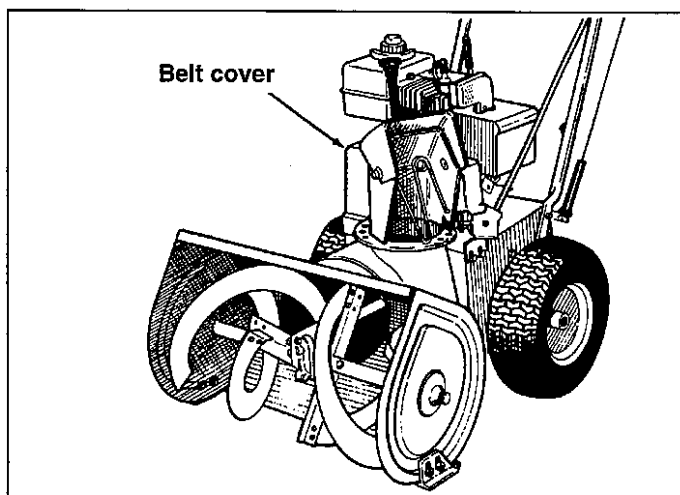

Figure 10. Drive Belt Cover
The snowthrower is equipped with two drive belts located just in front of the engine under the belt cover (figure 10). Figure 11 shows both belts and idler pulleys. The belt nearest the engine is the unit drive (wheels) belt. The belt farthest from the engine is the auger/impeller drive belt.
1. Remove the belt cover (figure 10). Determine which belt requires adjustment.
1. Remove the belt cover (figure 10).
3. Remove belt cover (figure 10).